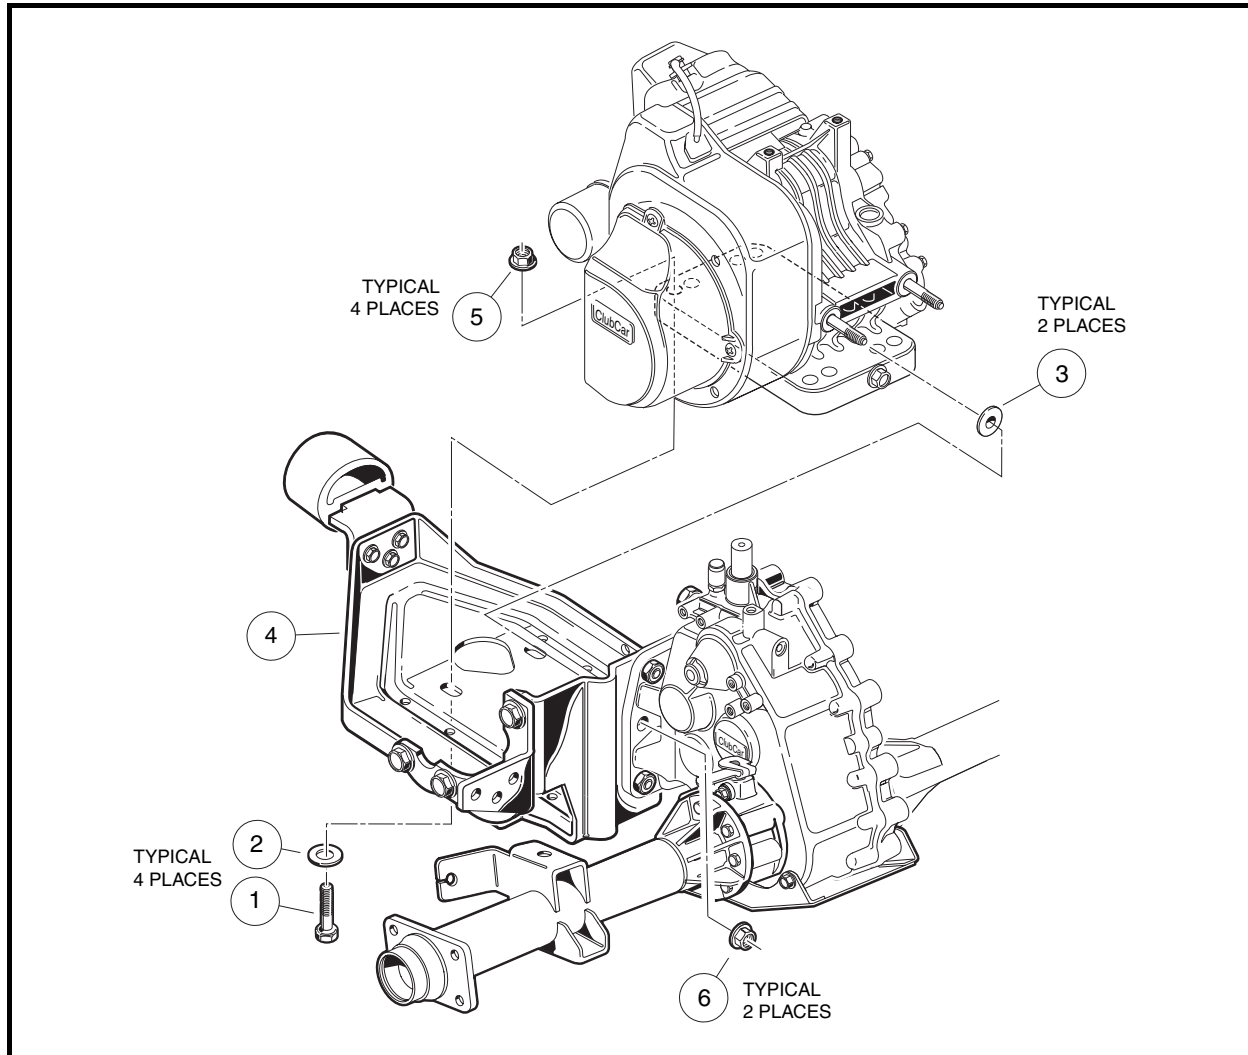

Figure 13-1 Engine Mounting Plate - with MC012C-AS00 Transaxle
5. Remove engine mounting hardware (items 1, 2, 5 and 6) (**Figure 13-1, Page 13-4**).
1. Place engine onto engine mounting plate and tighten the mounting hardware (1, 2 and 5) to 13 ft-lb (18 N·m). Tighten nuts (6) to 17 ft-lb (23.1 N·m) (**Figure 13-1, Page 13-4**).